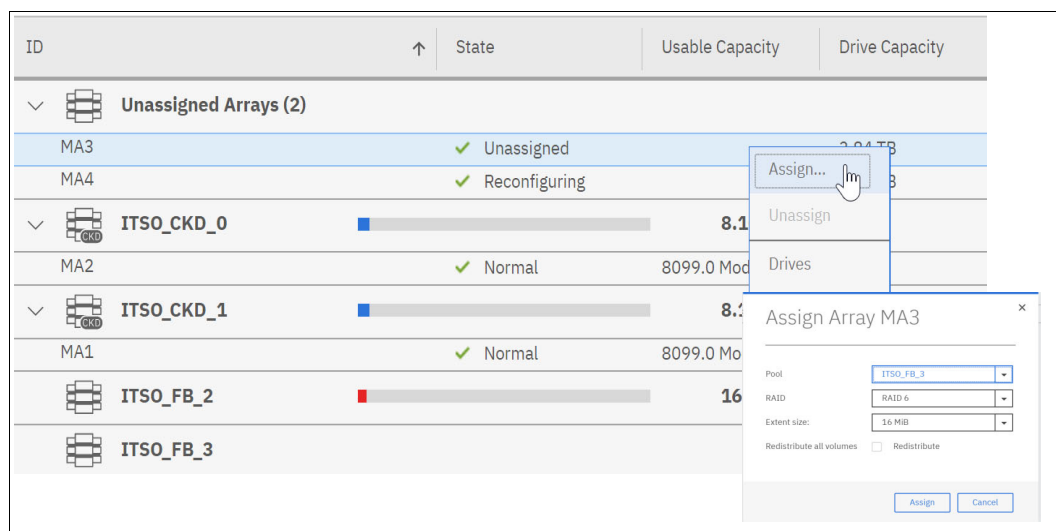

Figure 9-41 Manually assigning an array to an existing pool
1. Select an array and click **Assign** or **Reassign**, as shown in Figure 9-41. This action opens the Assign Array window.